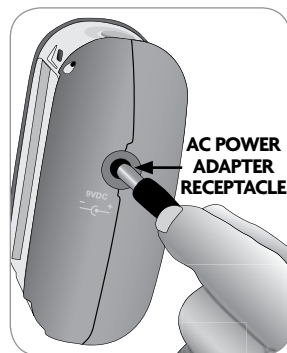

Fig. 8
1. Connect the AC power adapter to the KeepSafe Essential (fig. 8).